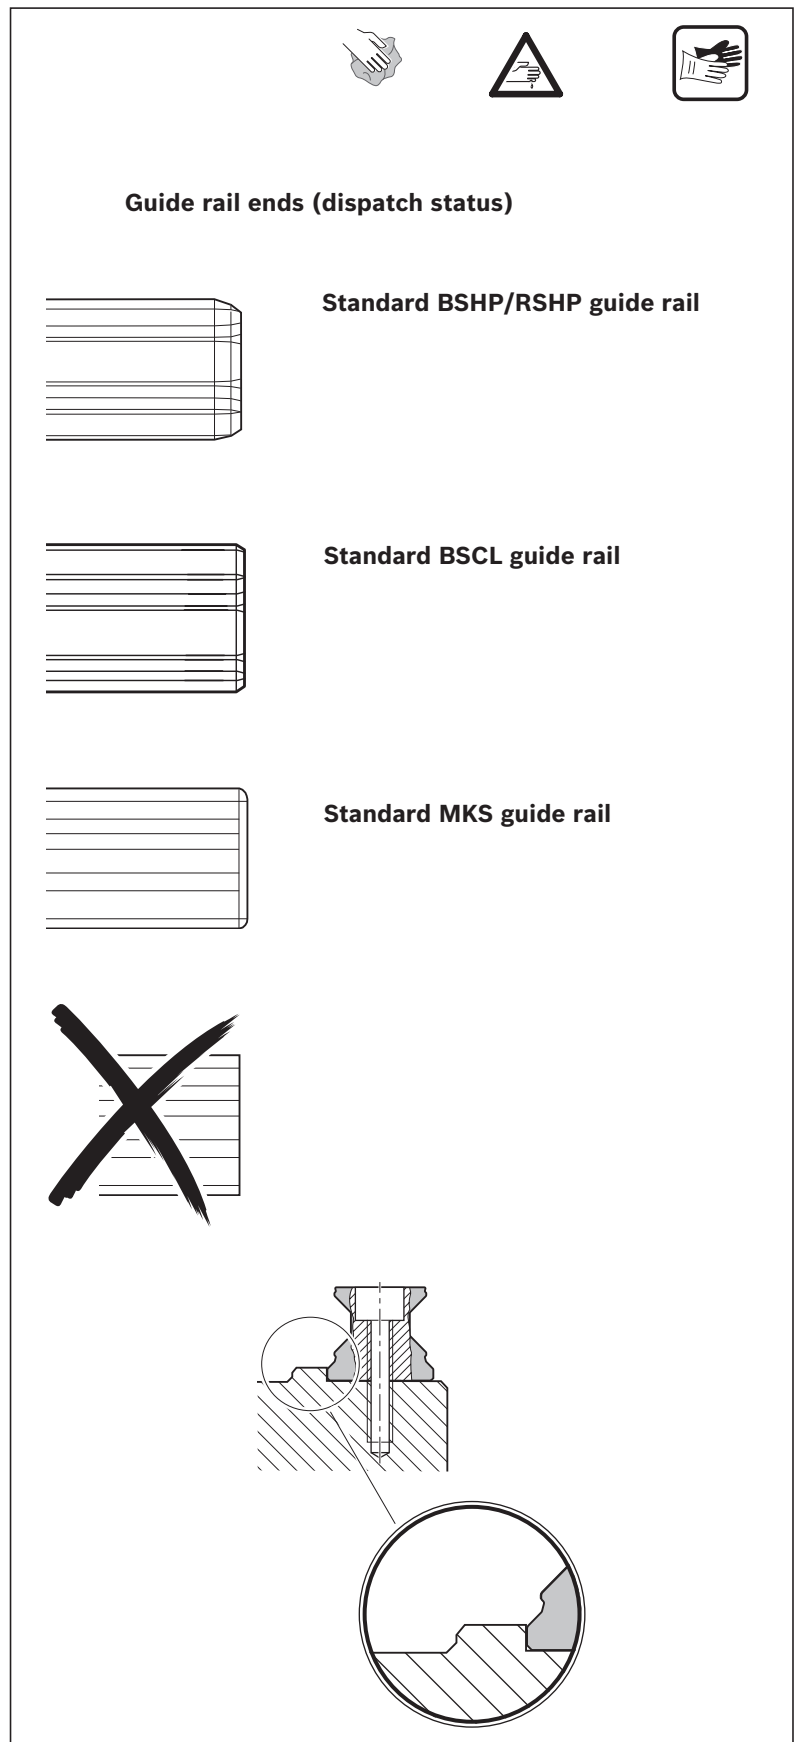

Fig. 11: Preparing the guide rails
- ▶ For deliveries of BSHP/RSHP guide rails in factory lengths/packaging units, the rail ends must be chamfered according to Fig. 11. For more information on this see the "Easy Customizing R3201031592 catalog".